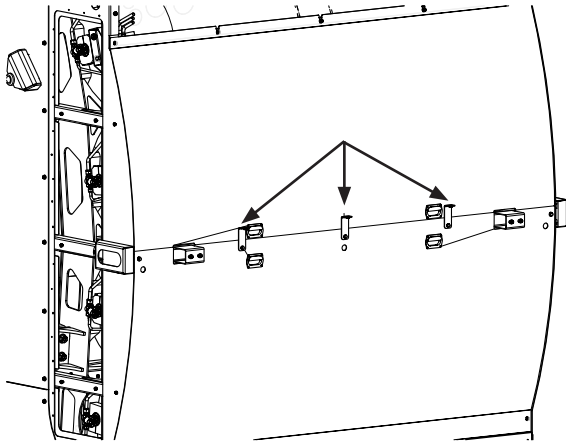

Figure 29-5
6. Reinstall the L-shaped cover brackets and their fasteners (3) (Figure 29-5).